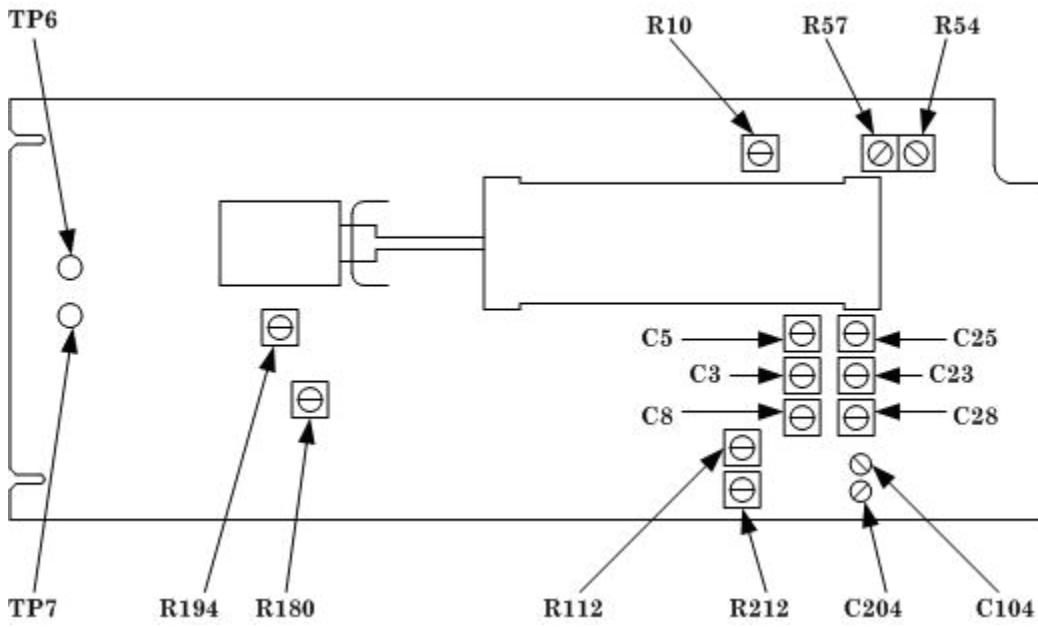

Figure 1. Adjustment locations - left side view.
- (1) Adjust R112 (fig. 1) for minimum oscilloscope trace shift.
- (2) Adjust R212 (fig. 1) for minimum oscilloscope trace shift.
- (3) Adjust R194 (fig. 1) for minimum oscilloscope trace shift while rotating **CAL** control throughout its range.
- (1) Adjust C104 (fig. 1) until trace returns to graticule centerline within  $\pm 1.5$  divisions in 0.1 ms (final adjustment made in paragraph **12 b**) (R).
- (2) Adjust C204 (fig. 1) until trace returns to graticule centerline within  $\pm 1.5$  divisions in 0.1 ms (final adjustment made in paragraph **12 b**) (R).
(1) Adjust standardizer and C28 (fig. 1) for optimum square wave (R).
(2) Adjust C23 (fig. 1) and C25 (fig. 1) for minimum roll-off and overshoot on leading corner of square waveform (R).
(3) Adjust C8 (fig. 1) for same display as in (1) above (R).
(4) Adjust C3 (fig. 1) and C5 (fig. 1) for same display as in (2) above (R.)
(1) Adjust C104 (fig. 1) or C204 (fig. 1) until oscilloscope display is less than 2 divisions (R). If more than 2 turns are required, adjust C104 (fig. 1) and C204 (fig. 1) in equal and opposite amounts and perform paragraph **10 a** (7).
(2) Adjust R10 (fig. 1) for minimum deflection of oscilloscope display.
(3) Adjust calibrator frequency for 1 kHz and readjust R10 (fig. 1), if necessary, until oscilloscope display is 0.2 division or less.
- (1) Adjust R54 (fig. 1) until multimeter indicates 10.00 Vdc (R).
- (2) Adjust R57 (fig. 1) until multimeter indicates 1.00 Vdc (R).